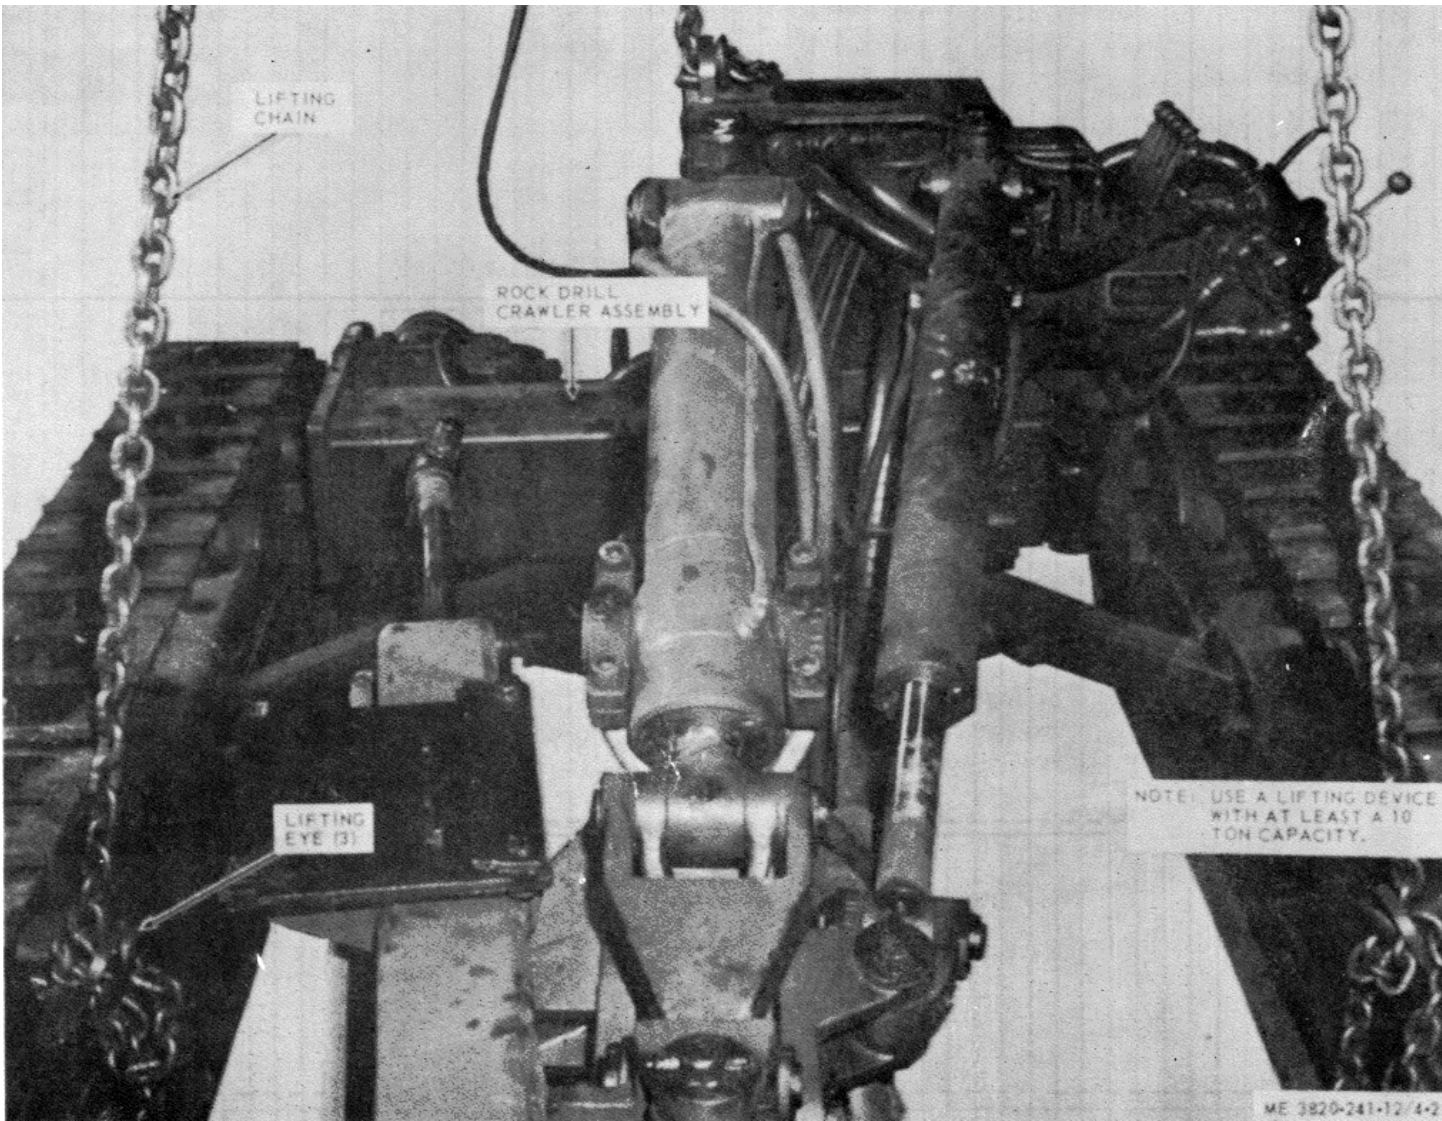
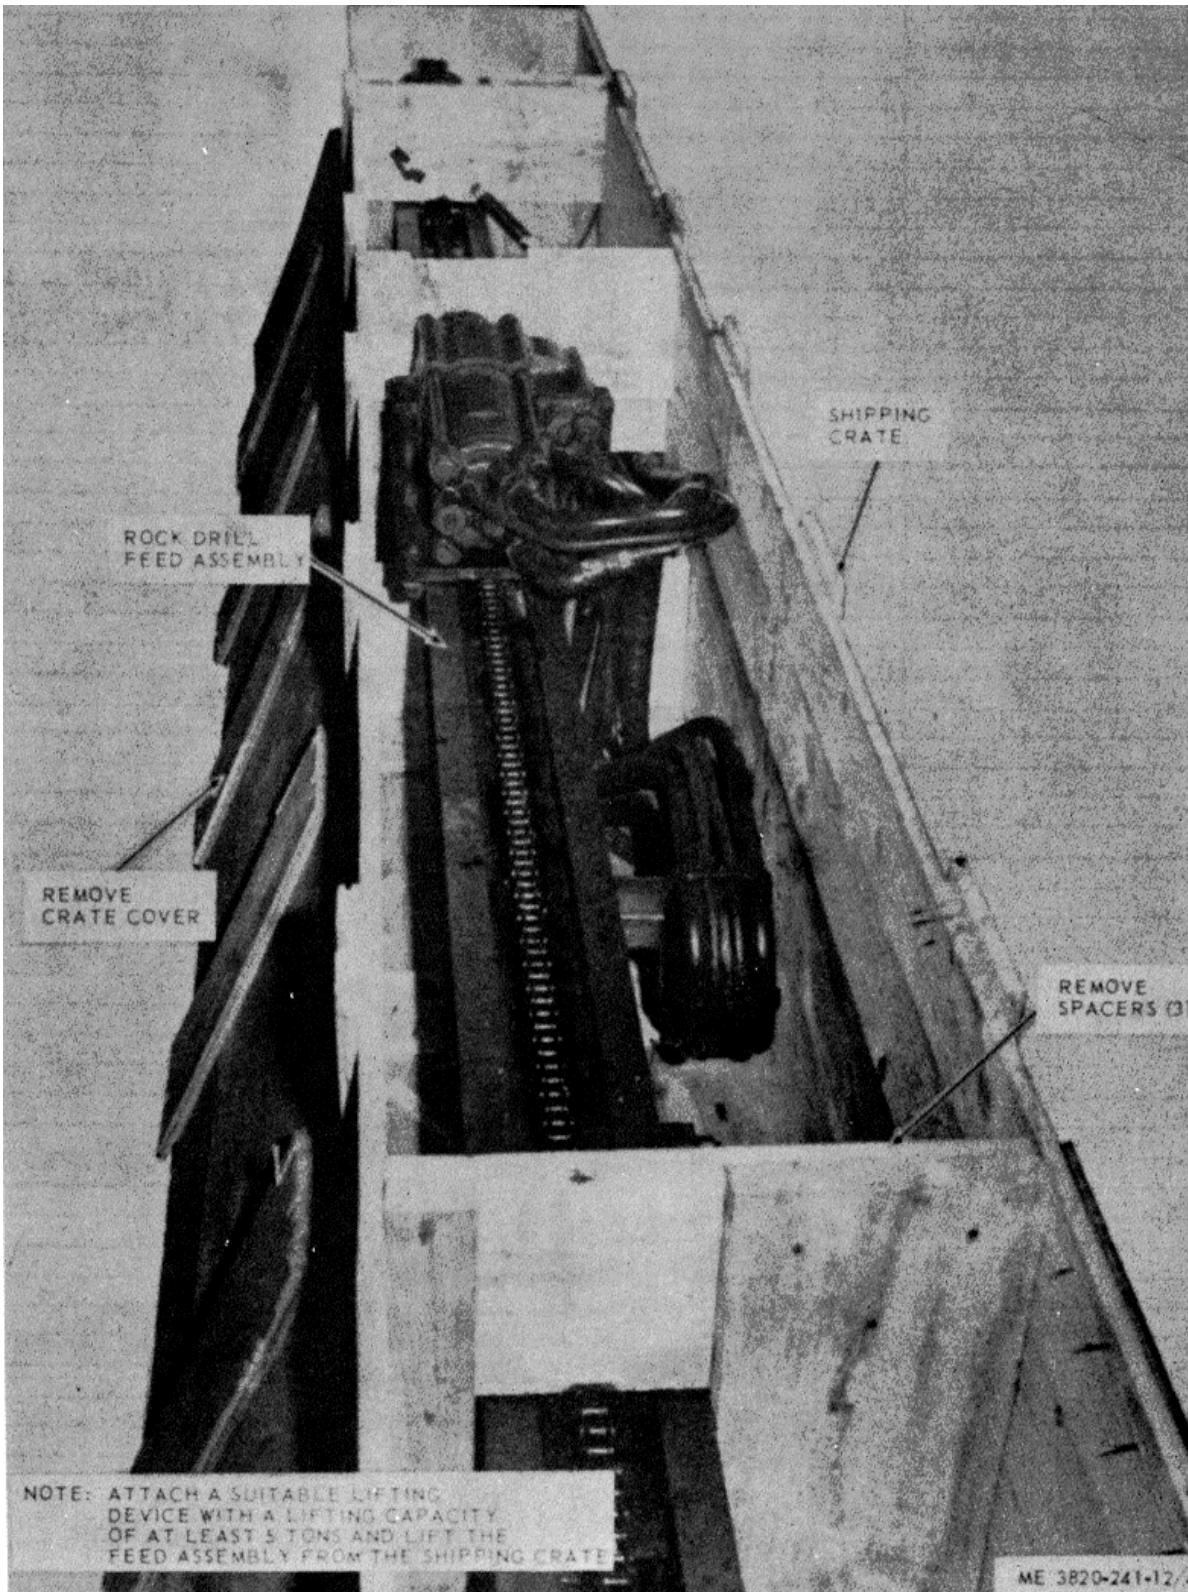

Figure 4-2. Lifting the rock drill crawler assembly.
Figure 4-3. Removing the rock drill feed assembly from shipping crate.
(2) Use a suitable hoist with a capacity of at least 24,000 pounds and remove the rock drill crawler assembly from the crate base as illustrated in figure 4-2.
(3) Remove the steel bands securing the drill and feed control valve to the crate base and remove the valve.
(4) Remove the rock drill feed assembly from the shipping crate as illustrated in figure 4-3.
(5) Remove the preservative tape from the rock drill cylinder rods and the feed control valve.
(1) Position the feed assembly in the horizontal position.
(2) Use a suitable hoist with at least a 12,000 pound capacity, attach lifting chain to lifting eyes, as illustrated in figure 4-2, and lift the rock drill on the carrier bed.
(3) Refer to TB 740-97-2 and prepare the rock drill for shipment to the new worksite.
b. Use a suitable lifting device with at least 12,000 pounds capacity and lift the rock drill from the carrier bed as illustrated in figure 4-2.